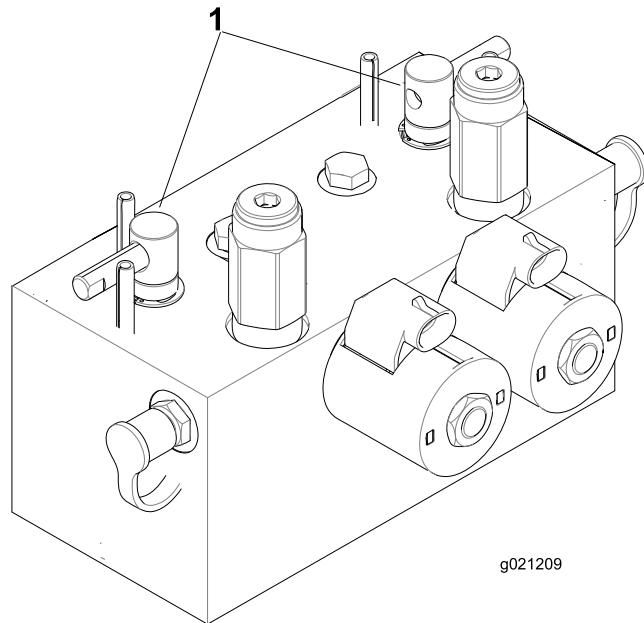

Figure 74
2. Unlock and raise the seat to expose the backlap levers (Figure 74).
5. Select either the front, rear, or both backlap levers to determine which units to backlap (Figure 74).